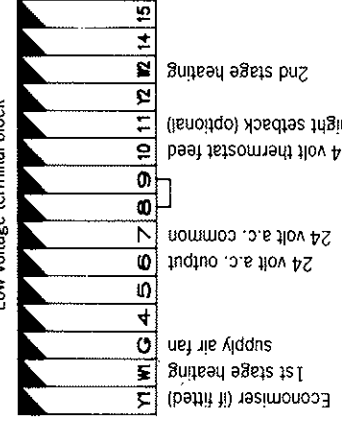

Fig. 7
5. Supply air fan. A single belt driven fan provides air supply through the unit. An adjustable sheave is used on the fan motor so that the m^3/s (cfm) rating can be adjusted. (see Fig. 7 and fan performance tables). Model 55 uses a 47.3 in 'A' section belt. Model 70 uses a 54.3 in 'A' section belt.